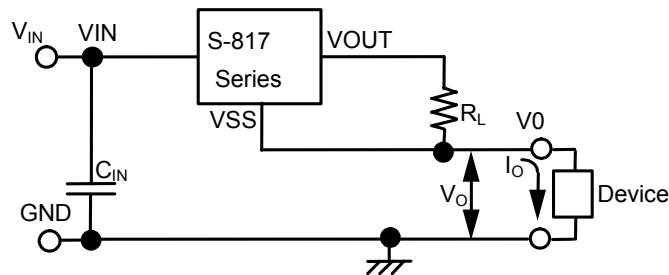

Figure 15
The S-817 Series can be configured as a constant current circuit. Refer to **Figure 15 and 16**.
Please note that it is impossible to set constant amperage I_O in case of circuit (1) of **Figure 15** to the value exceeding the drive ability of the S-817.